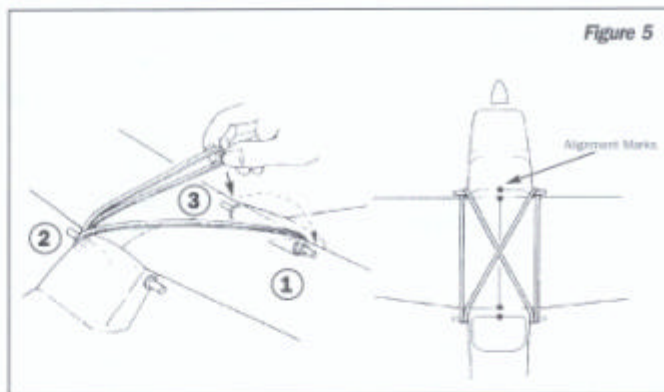

Figure 5
- b. Locate the two large rubber bands. Hook the first one over the left rear post on the fuselage, loop it around the right front post, and secure it to the right rear post. Repeat this step for the opposite sides. Refer to **Figure 5** for the proper method of attaching the rubber bands.